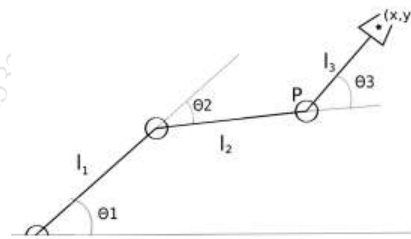

Fig.1. Serial Manipulator
- b) Explain and illustrate the D-H representation of link and joint parameters for a serial manipulator as shown in Fig.1.
- a) Identify joints and find degree of freedom of a serial manipulator as shown in Fig.1. Also find the transformation matrix of the end effector with respect to base. **(10)**
- a) For a serial manipulator shown in Fig. 1, find the inverse joint angles using inverse kinematics analysis, assuming the end effector position as x and y. **(12)**
- c) Explain robot dynamics with help of robot as shown in figure 1. **(4)**